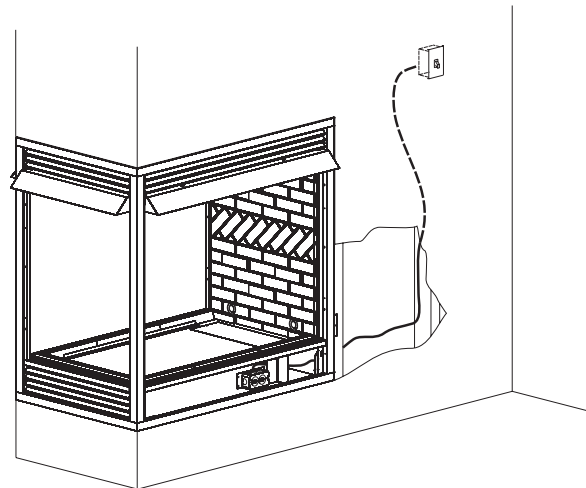

Figure 13 - Flush Or Louvered Models
To install the blower kit, access the junction box, or install a light kit, remove the access cover plate and/or lower louvers or flush panels as illustrated by figures 13 and 14.
3. Determine which type of firebox you have prior to installation. **See Figures 13 and 14.**
13. Replace blower access plate and louvers or flush panels. **See Figures 13 and 14.**